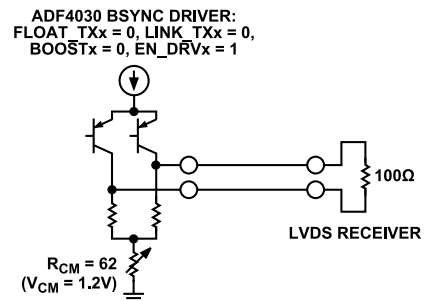
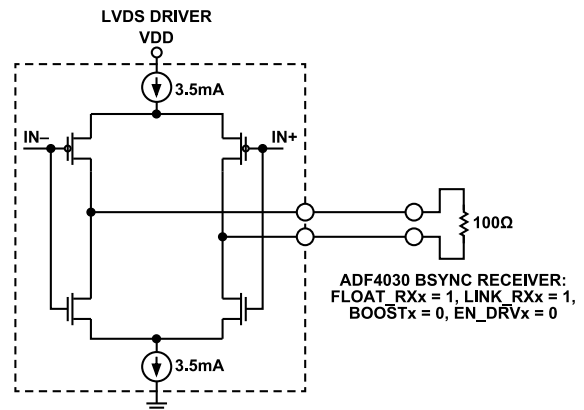

Figure 38. ADF4030 BSYNC to LVDS Receiver Connection
Figure 39. LVDS Driver to ADF4030 BSYNC Receiver Connection
- An LVDS receiver (Figure 38 and Figure 39)